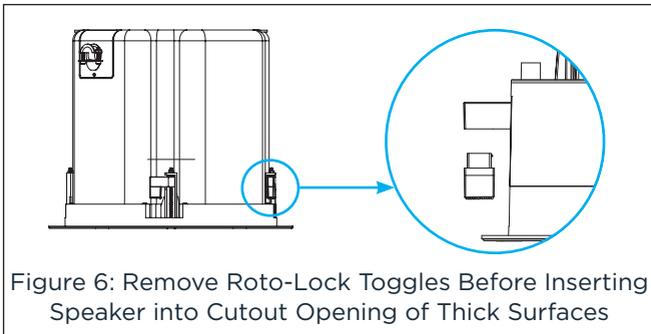

Figure 6: Remove Roto-Lock Toggles Before Inserting Speaker into Cutout Opening of Thick Surfaces
5. Make sure the Roto-Lock Clamps are in the full clockwise position so that all the clamps are tucked within the cutout border. Insert the loudspeaker into the hole in the ceiling (see Figure 6).